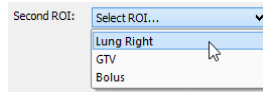

Figure 257 – Selecting the second ROI for algebra
4. Select the second ROI in the drop-down list that is displayed by clicking the **Second ROI** button (see Figure 257).